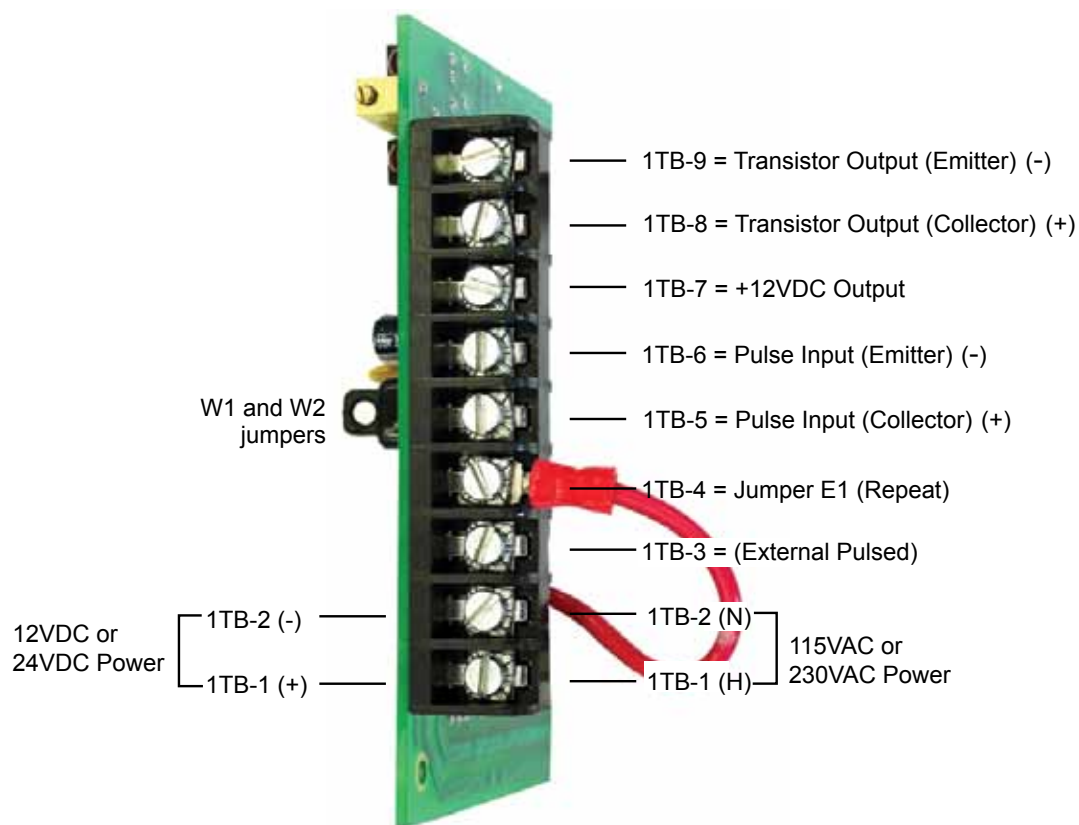

Figure 2.2—Field wiring of CD-20 controller
All field connections are made to terminal block 1TB on the control card (Figure 2.2). Install wiring as follows:
- For the repeat mode (time-proportional sampling), connect jumper E1 to 1TB-4, as shown in Figure 2.2.
1. Connect jumper E1 to terminal 1TB-4 (Figure 2.2, page 8).
2. Move the E1 jumper to 1TB-3 to select the external pulse input mode (Figure 2.2, page 8).